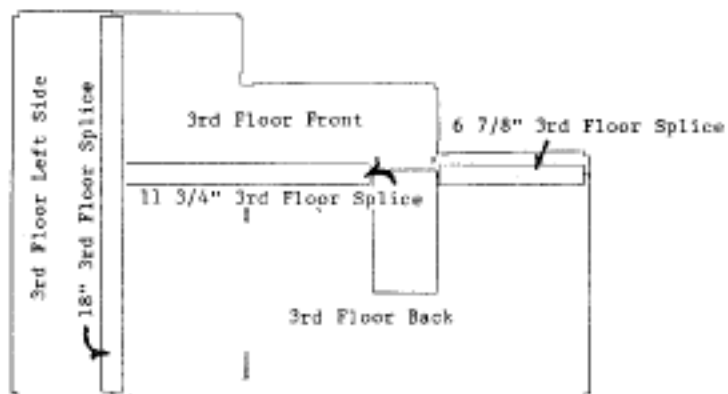

Figure 14
2. With the good side down, splice floor parts together as in Figure 14.